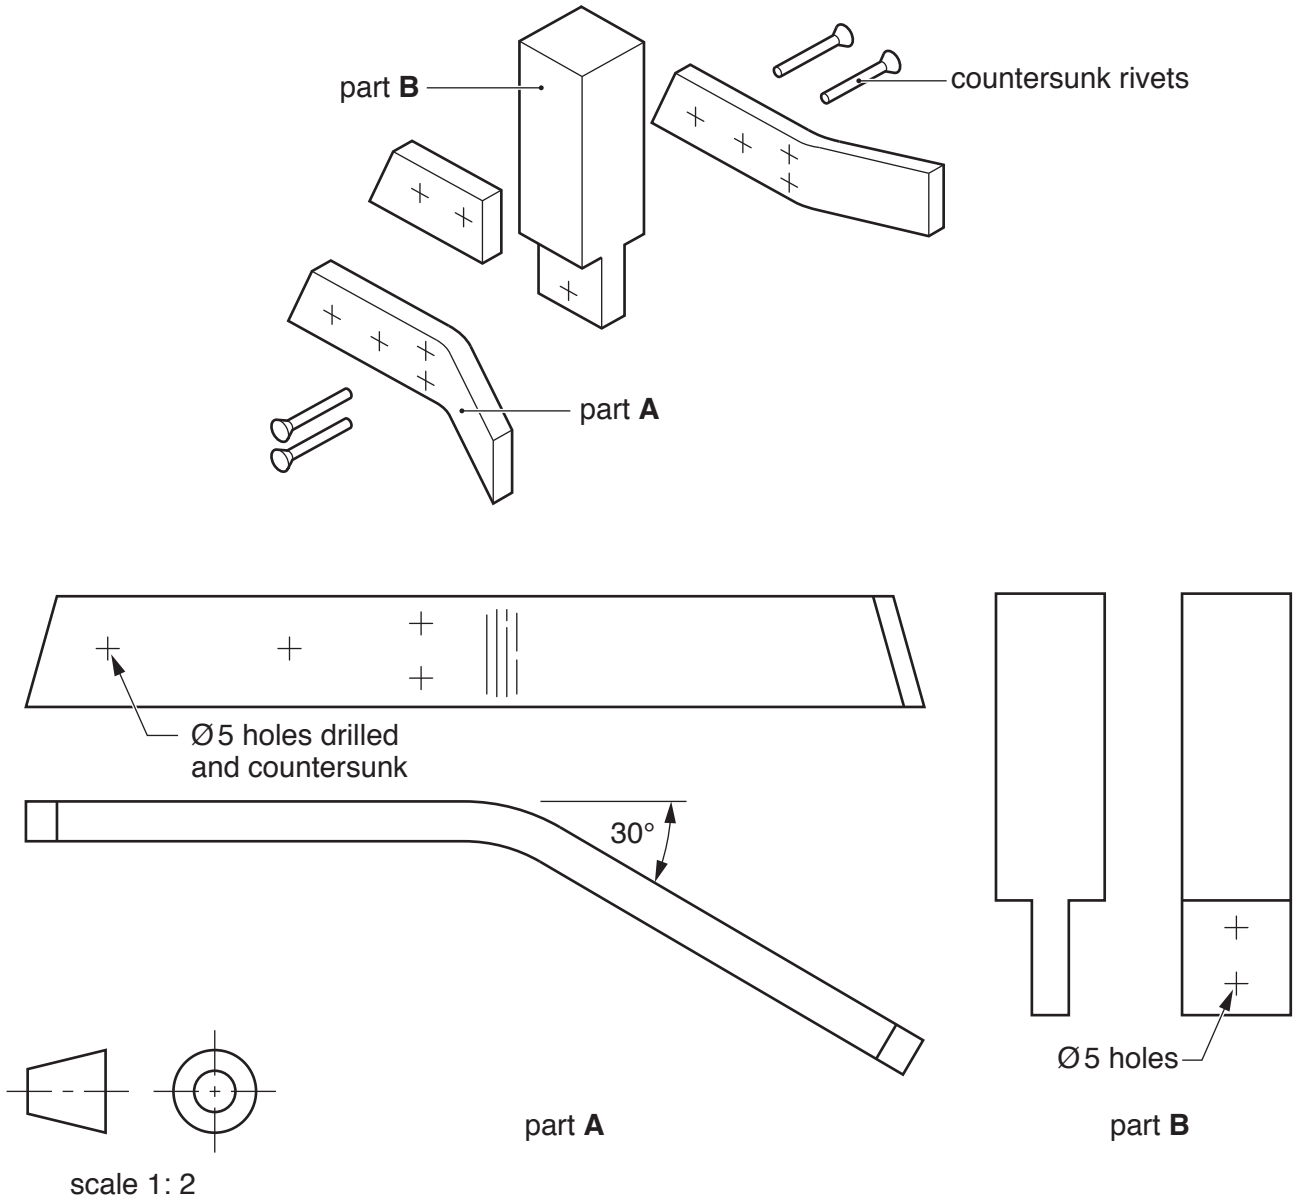

Fig. 1
- 1 Fig. 1 gives details about the base for a microphone stand, made from steel that is to be produced in a school workshop.